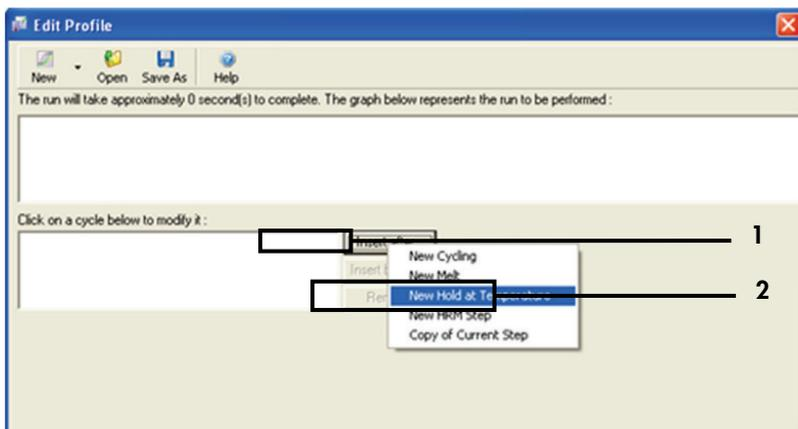

Figure 23. Inserting an initial incubation step. 1 = “Insert after”; 2 = “New Hold at Temperature.”
6. Click **Insert after** and select **New Hold at Temperature** (Figure 23).